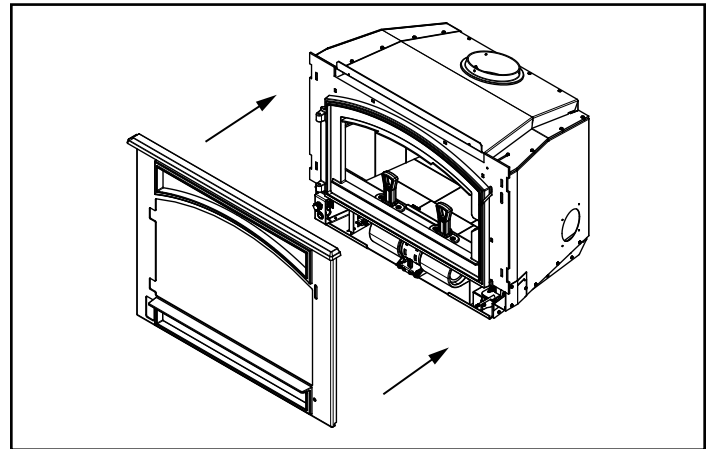

Figure 5.10
5. Reinstall face to front of appliance (Figure 5.10).
8. Reinstall face to front of appliance (**Figure 5.10**).